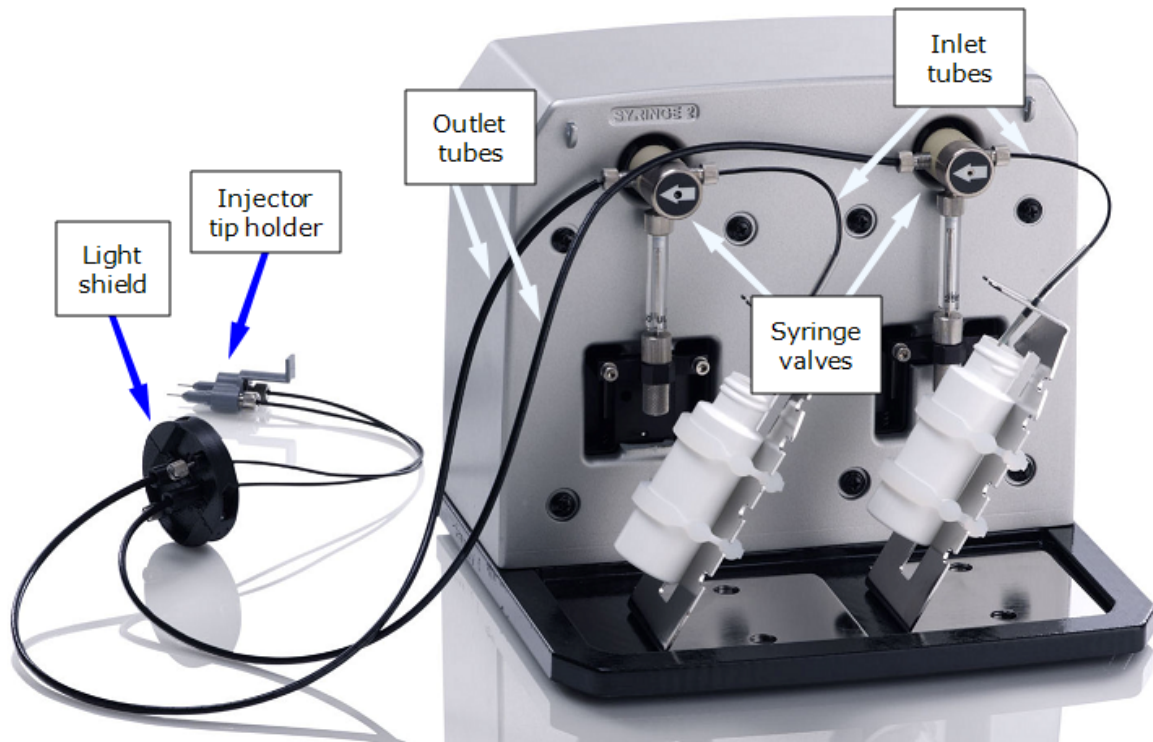

Figure 2-4: Dispense module components
4. Identify the two syringe valves on the dispense module (see Figure 2-4 on page 15). Each is labeled with a left-pointing arrow.
① When installing the tubes, do not use any tools. Finger-tighten only!